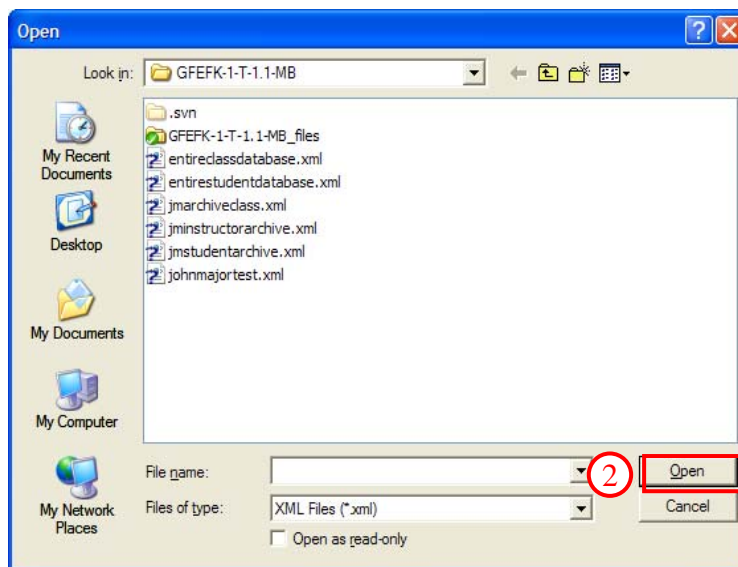

Figure 66. Retrieve Entire Database - Open Dialog
2. An Open dialog is displayed (Figure 66). Navigate to the location where the database was saved, select a File name and click the [OPEN] button.